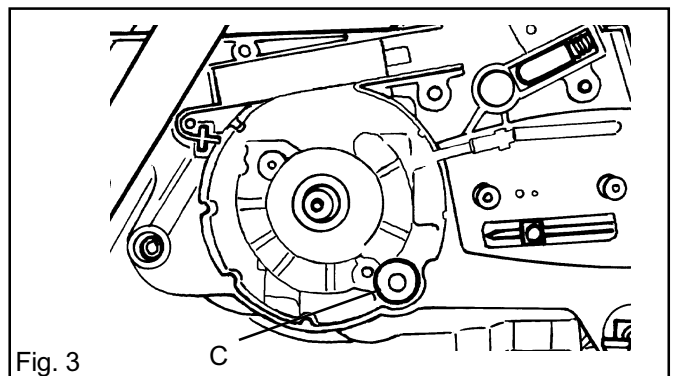

Fig. 3
6. Use pointed pliers to pull free the suction pipe (**C**) and sieve. See fig. 3.